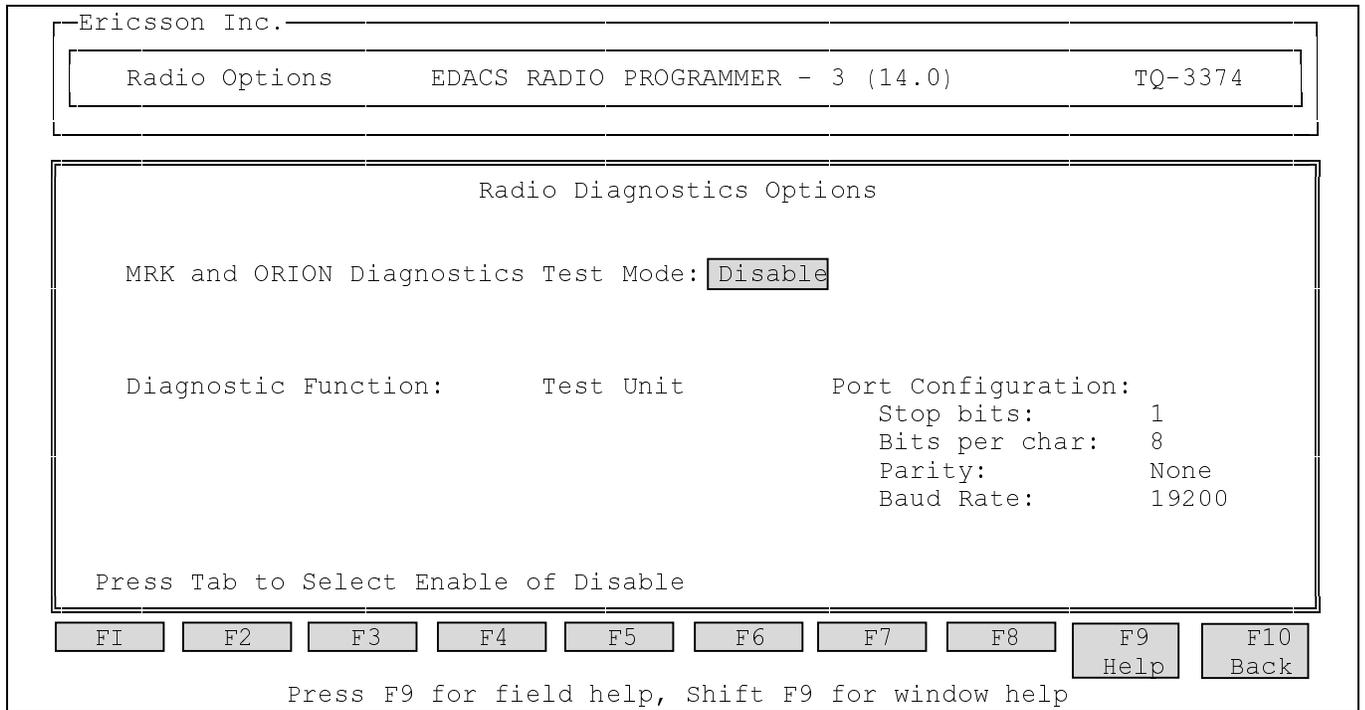

Figure 5 - Radio Diagnostics Options Screen
- Press the **F2** (DGNTST) function key to go to the **Radio Diagnostics Options** screen (see Figure 5).